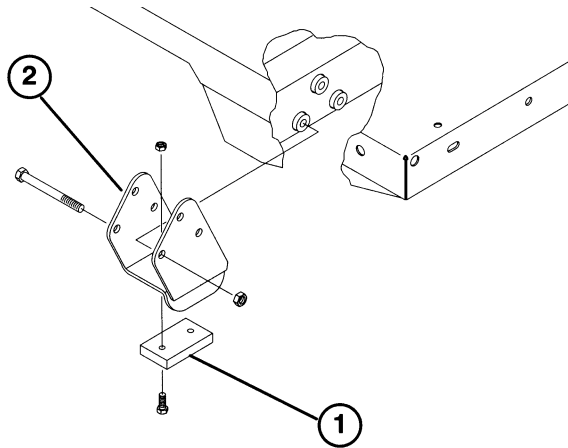

Figure 3
- Note:** Make sure spacer brackets and wear blocks (Fig. 3) are installed or the radiator cover may be damaged.
2. Carefully set bed onto vehicle frame aligning rear bed pivot plate holes with holes in rear frame channel and install (2) clevis pins and Lynch pins (Fig. 3).